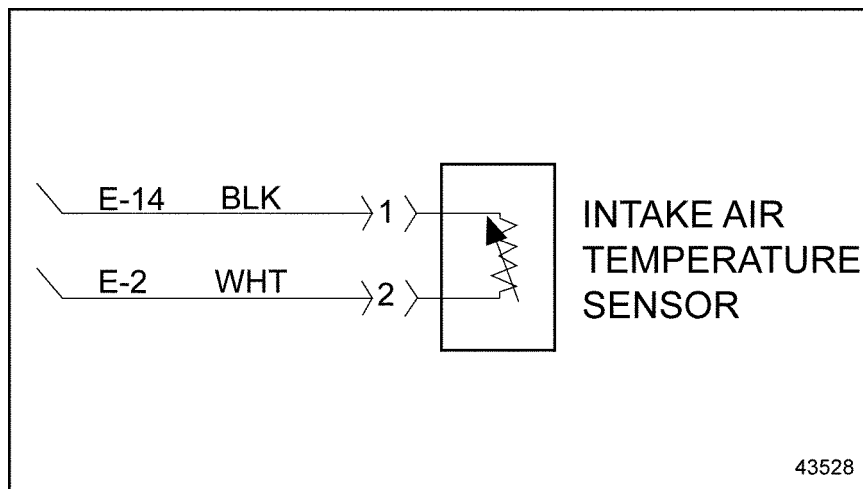

Figure 32-2 Engine Harness to Air Temperature Sensor Connector
2. Disconnect the ATS connector. See Figure 32-2.